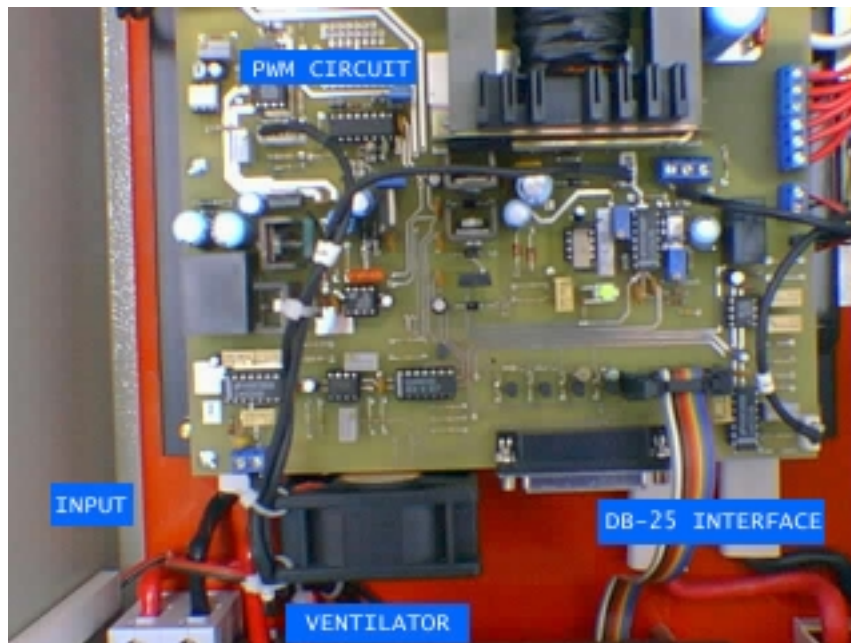

figure 3 - Main Board and Circuits
1. In the lower left corner, there is the switch for the disconnection of the 48 Volt (DC) "input" (current from the battery system). Next a 20A fuse (DIN) can be observed.
2. The middle and upper part is occupied by the main circuit board, which has no user-adjustable parts and should not be altered or manipulated under any circumstances. This section also includes a cooling system with ventilator. This ventilator is started automatically when the temperature exceeds a preset value. On the main circuit board a green LED which indicates operation can be observed. See **figure 3**.